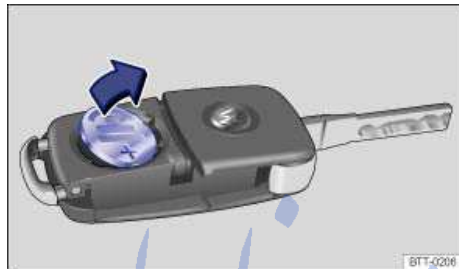

Fig. 24 Remote control vehicle key: Remove old battery.
- Use a thin object to pry the battery out of the battery compartment ⇒ fig. 24.
- Position the new battery in as shown ⇒ fig. 24 and press it into the battery compartment (opposite to direction of the arrow) ⇒ ⚠.